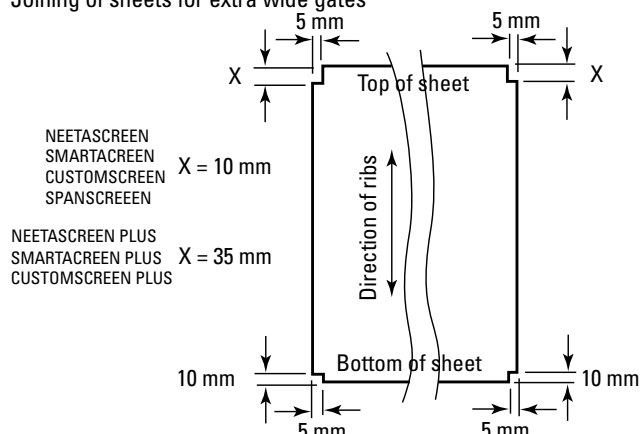

Figure 20.3
- 3) Using tin snips, notch the four corners. The top and bottom notches are different. (Figure 20.3).
9. Check squareness by measuring the gate's diagonals. Drive a second hex. head screw (see below) in each of the four corners, at first inner rib (non side-lap rib) of infill sheet from the stile for NEETASCREEN, SPANSCREEN and SMARTASCREEN and second inner rib for CUSTOMSCREEN (Figure 20.3).